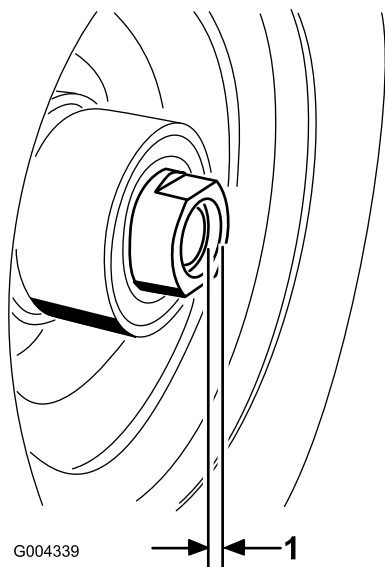

Figure 29
11. If both spacer nuts were removed from the axle, apply thread locking adhesive to the spacer nut. Install the spacer nuts onto the axle leaving an 1/8 inch (3mm) of the nut past the axle (Figure 29).
16. Torque the spacer nut to 75-80 in-lb (8-9 N·m) then loosen it and torque it to 20–25 in-lb (2-3 N·m). Make sure the axle does not extend past either nut (Figure 29).